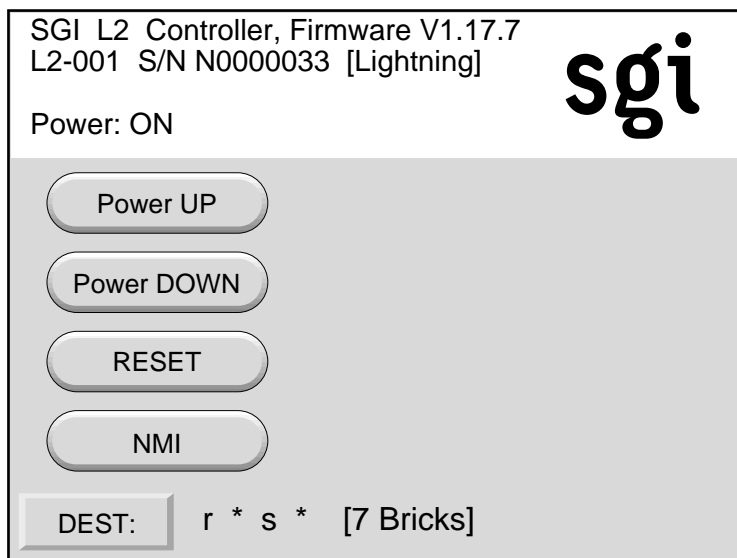

Figure 1-9 Home Window
1. Select **Power DOWN** from the home window shown in Figure 1-9.